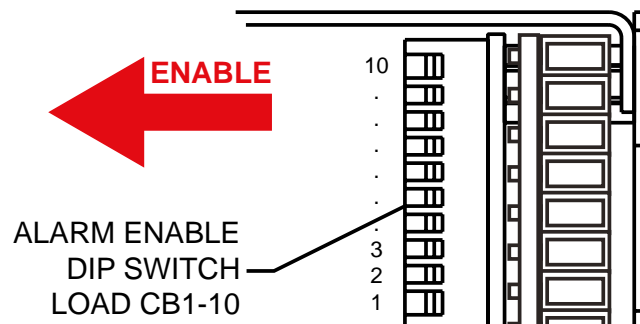

Figure 5 - Breaker Alarm Enable Detail
8.3.1 **LOAD BREAKER ALARMS:** At the far right there is a set of 10 DIP switches to enable breaker alarms (see figure 5 below). For each breaker position installed the corresponding DIP switch must be enabled otherwise an alarm will not be received. Blank positions must be disabled.